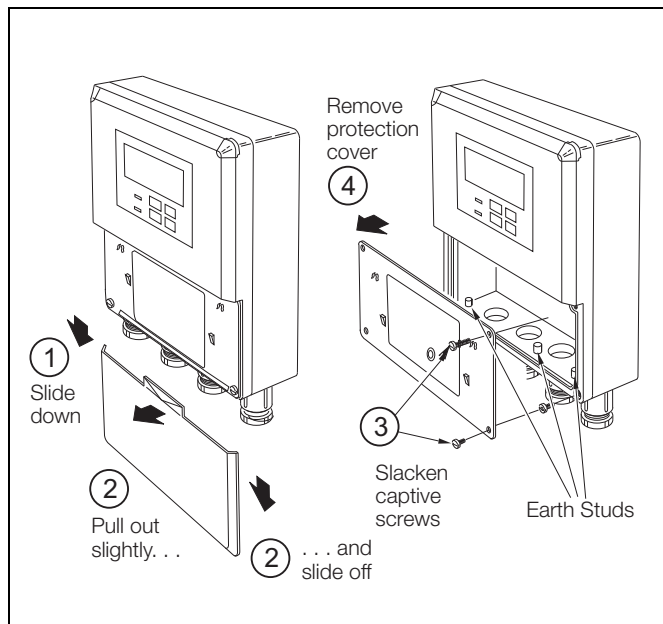
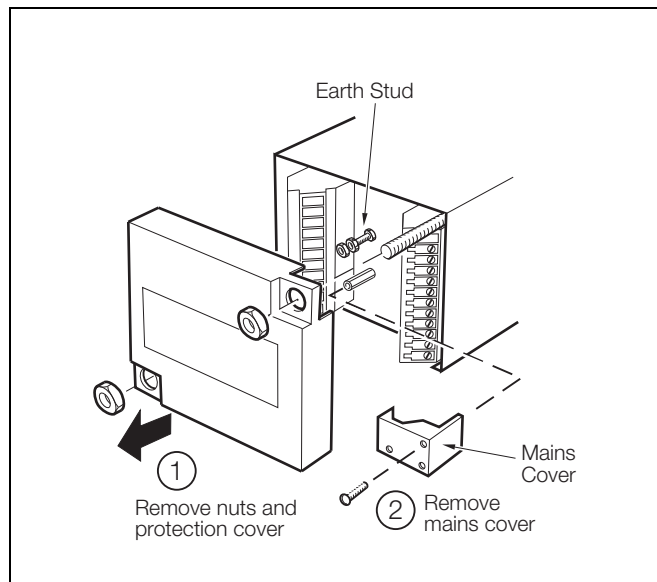

Fig. 3.1 Access to Terminals – Wall-mounted Instrument
Fig. 3.2 Access to Terminals – Panel-mounted Instrument (Rear View)
- **Earthing (grounding)** – stud terminals are fitted to the transmitter case for bus-bar earth (ground) connection – see Fig. 3.1 or Fig. 3.2.
Note. Refer to Fig. 3.1 for access to terminals.
Note. Refer to Fig. 3.2 for Access to Terminals.